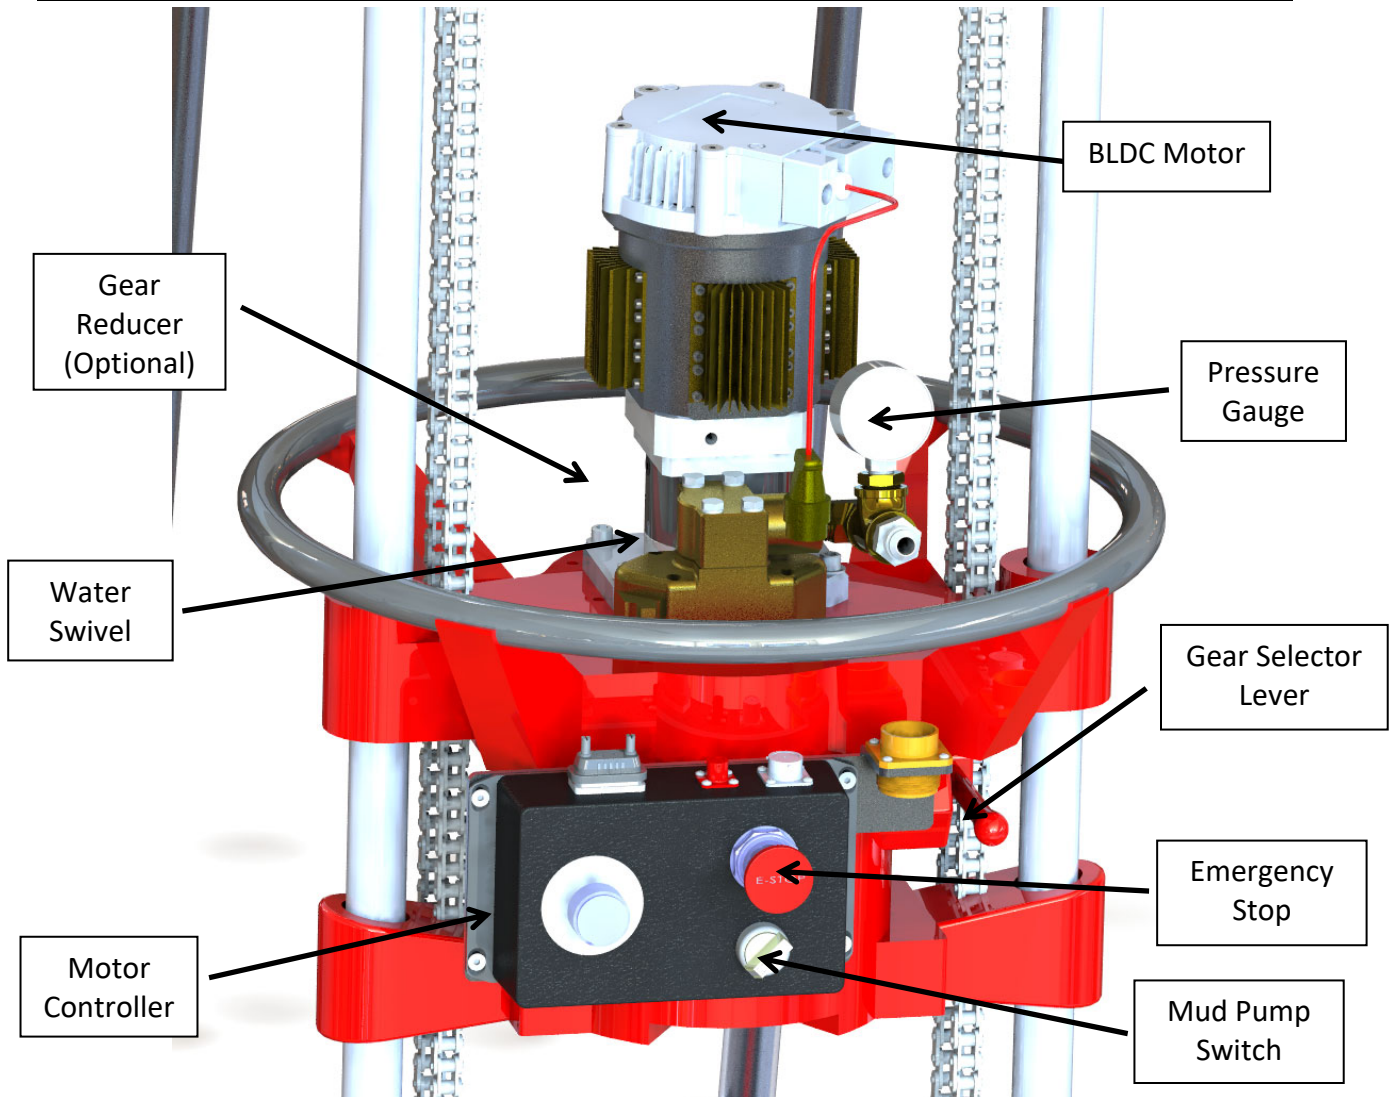

Figure 21: Winkie powerhead components.
2. Start the mud pump by turning on the mud pump switch, Figure 21, on the powerhead control box.
The Winkie Drill powerhead consists of a brushless DC (BLDC) electric motor with integrated drive, planetary gear reducer (optional), motor controller, transmission, and water swivel, Figure 21.
- Always monitor the drill fluid pressure gauges. There is one at the input of the water swivel, Figure 21, and one on the manifold of the mud pump. If circulation pressure approaches the electronic PRV set point or if return flow stops, reduce feed pressure immediately and lift the bit off the bottom of the hole. It is critical to never apply feed pressure if there is not return fluid circulation. This will result in sticking of the drill string. Attempt to reestablish fluid circulation by raising or lowering the drill string while continuing to rotate the drill string. NOTE: The core lifter will be engaged on the core when the drill bit is raised from the bottom. If the barrel is lifted too far, this can result in a core break which normally ends a coring run.